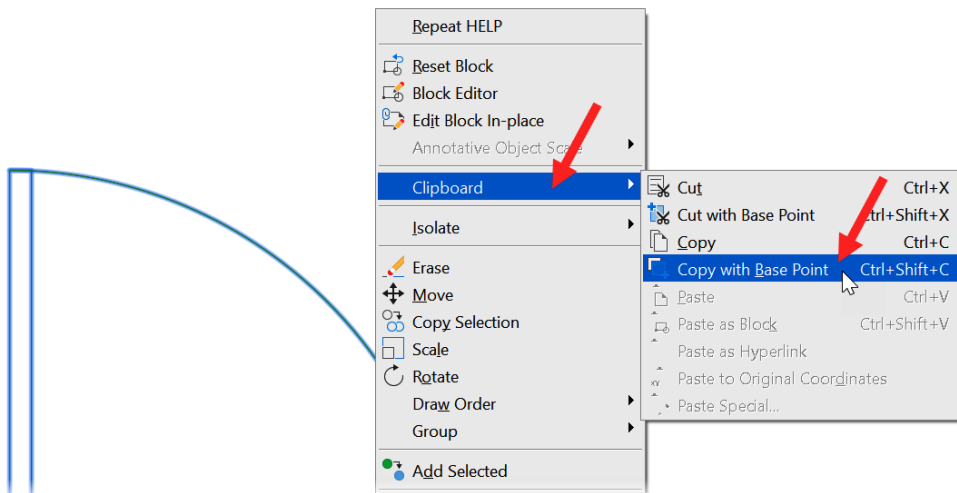

Figure 9.18: The shortcut menu with Copy with Base Point displayed
2. Select the dynamic door block you placed in the previous section of the chapter. Right-click to bring up the shortcut menu and select **Clipboard**. Select **Copy with Base Point** on the sub-menu, as shown in *Figure 9.18*.